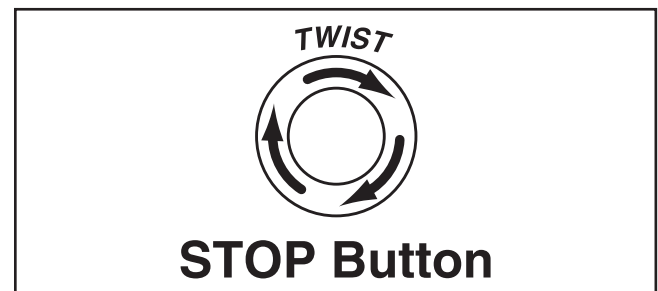

Figure 19. Resetting the switch.
5. Push Emergency Stop button (●, C) in, then twist it clockwise so it pops out. When STOP button pops out, switch is reset, and machine is ready for operation (see **Figure 19**).